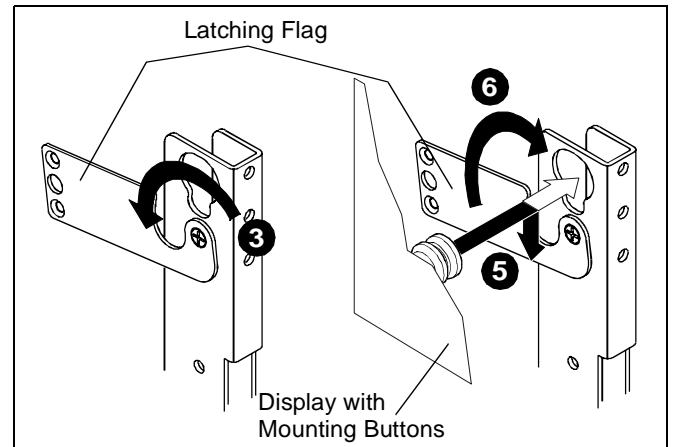

Figure 12
5. Slide mounting buttons on display into teardrop holes in right and left speaker mounting supports (B and C), and lower display until recessed area of mounting buttons is seated in lower area of teardrop mounting holes. (See Figure 12)